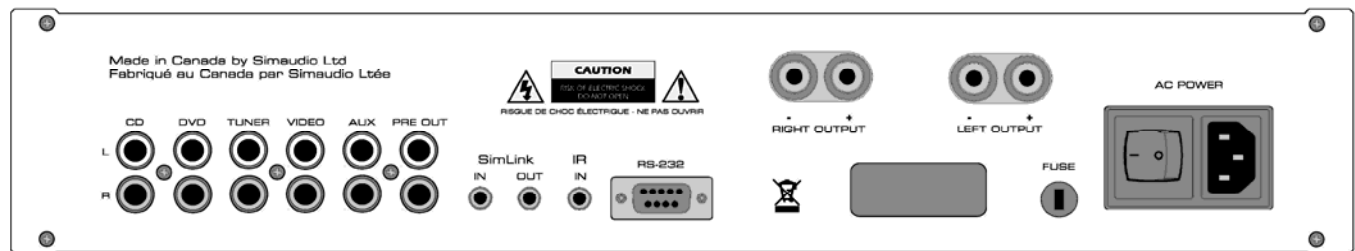

Figure 2: MOON 250i Rear panel
The rear panel will look similar to Figure 2 (above). There are five (5) pairs of single-ended inputs on RCA connectors labeled CD, DVD, TUNER, VIDEO and AUX. The left channel inputs are located on top and the corresponding right channel inputs are located directly below.